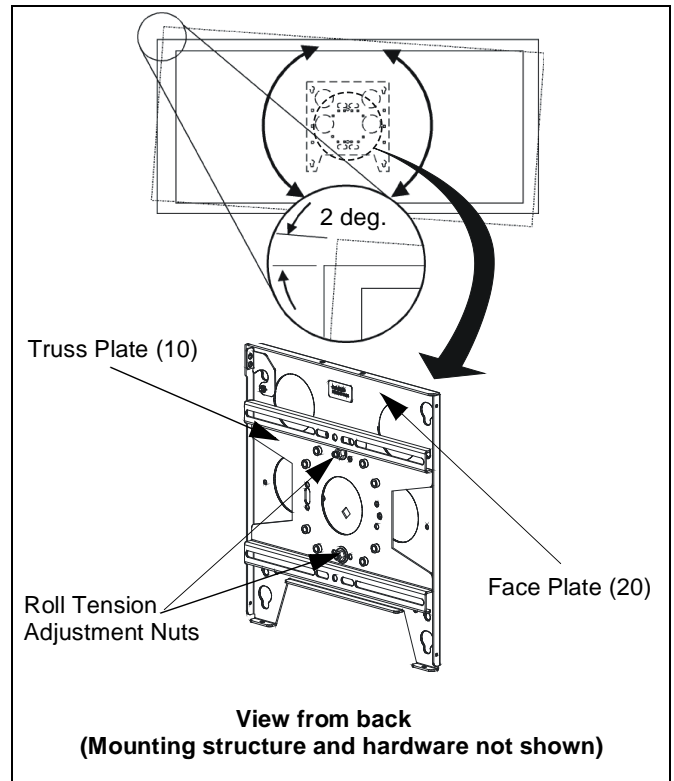

Figure 11: Display Roll Adjustment
- Loosen roll adjustment nuts. (See Figure 11)
- Tighten roll adjustment nuts. (See Figure 11)